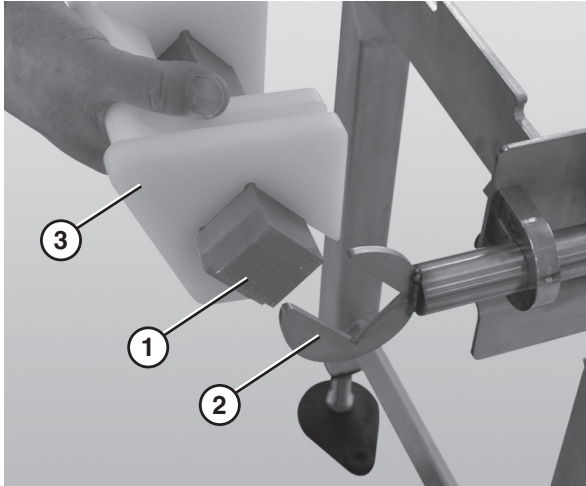

Figure 62
- Slide the nose bar drive or transfer post (**Figure 62, item 1**) out of the nose bar drive weldment or idler hands (**Figure 62, item 2**).
2. Remove the nose bar tracking pucks (**Figure 62, item 3**), if applicable.